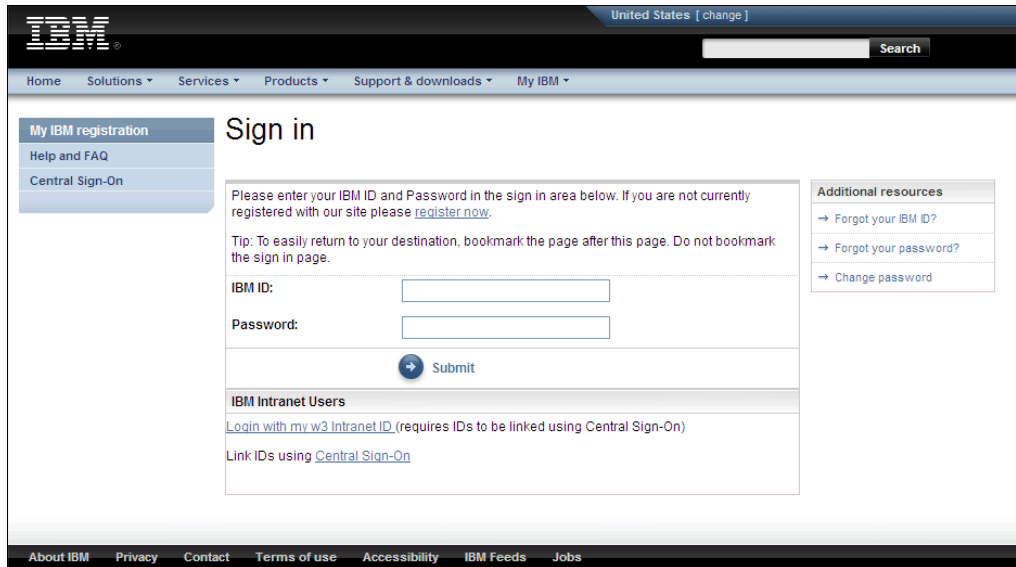

Figure A-8 IBM ID - Sign in
- If you do not have an IBM ID, or you are not signed in to the IBM Support Portal, you see the web page that is shown in Figure A-8.
2. The Sign in window opens, as shown in Figure A-8 on page 589. Enter your IBM ID and password and proceed. If you are not currently registered with the website, click **Register Now** and register.